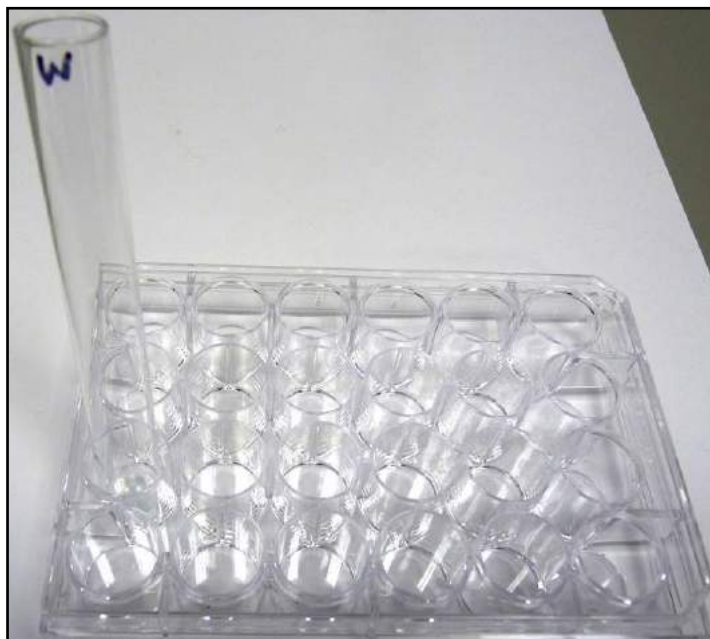

Figure 11. Example of labeled test tube in 24-well plate. It is important that the label be as close to the top of the test tube as possible.
15. Remove the 11 test tubes from their wrappings and use the permanent marker to label the test tubes as follows: “W, 1, 2, 3, 4, 5, 6, 7, 8, 9, B.” **It is very important that the labels be as close to the opening of the test tube as possible.** See Figure 11.
16. Place the labeled test tubes into the 24-well plate which is to be used as a test tube holder. See Figure 11.